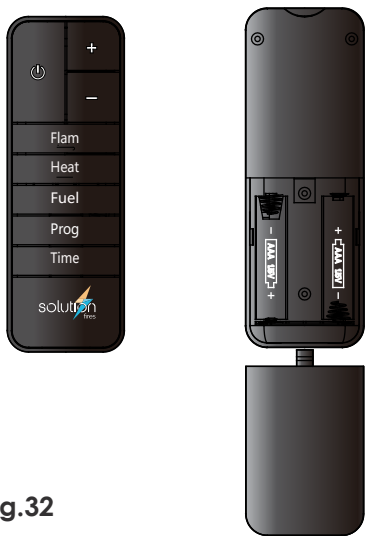

Fig.32
**Battery information - see Fig. 32**